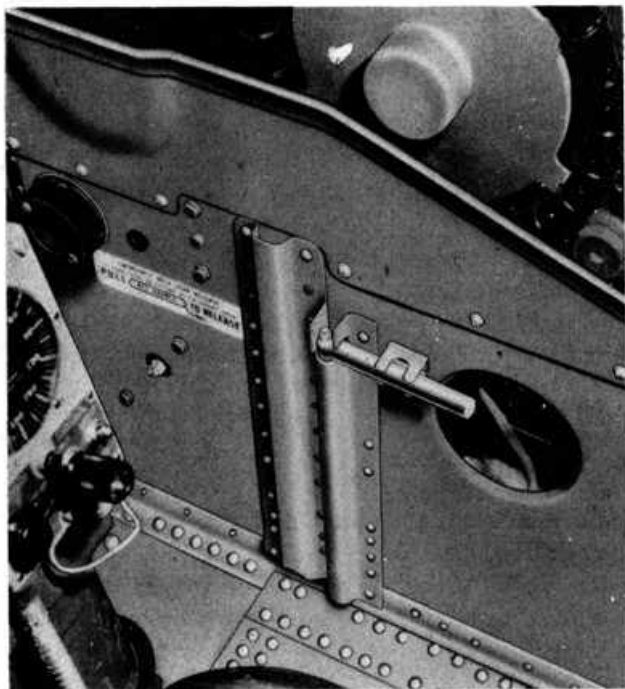

Figure 30—Nose Wheel Emergency Release Lever
(4) As soon as the landing gear is extended and locked, as indicated by position lights and position indicator, move the emergency hydraulic selector valve control to the "SYSTEM" position.
b. NOSE GEAR.—In case the nose wheel fails to extend, it can be mechanically released by pulling the emergency release control (figure 30). This will permit the nose gear to be hydraulically extended by repeating the process in preceding paragraph 8. a., in this section.